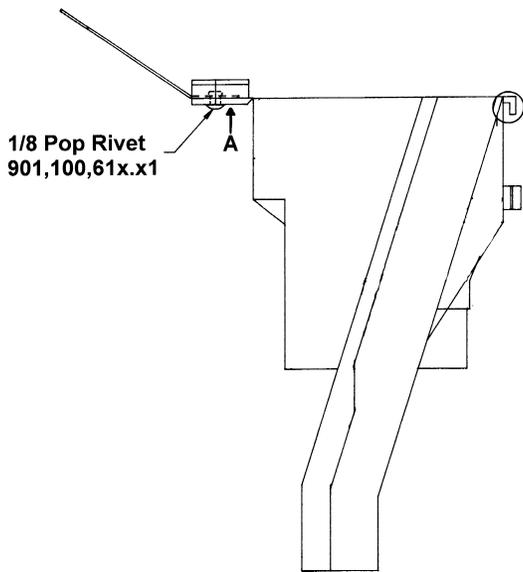

Figure 1
2. Open the top flap (A) of the hopper as shown in figure 1.
5. Refer to figure 1 to rivet anti-theft plate to hopper flap.